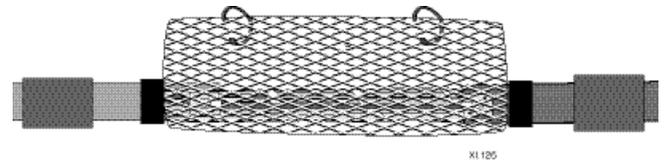

Figure 5
7. Center the inner liner around the splice bundle and overlap the ends of the mesh at least 1/2". Secure the mesh with the supplied tie wraps. (Figure 5)